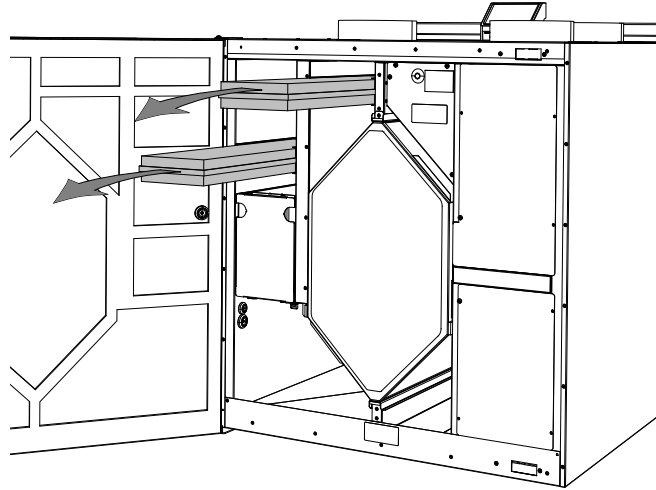

Fig. 5 Changing of filters
1. Change filters as shown in below illustration (figure 5).